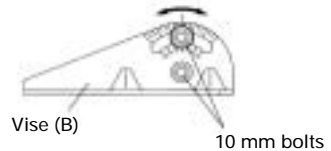

Fig. 5
- (1) The machine permits cutting at angles of 45° or 60°.
(2) Loosen the two M10 hexagon socket head bolts on the vice (B), then set the working surface on the vice-jaw at any angles of 0°, 30°, or 45° as shown in Fig. 5. Upon completion of setting, securely tighten the two M10 hexagon socket head bolts.